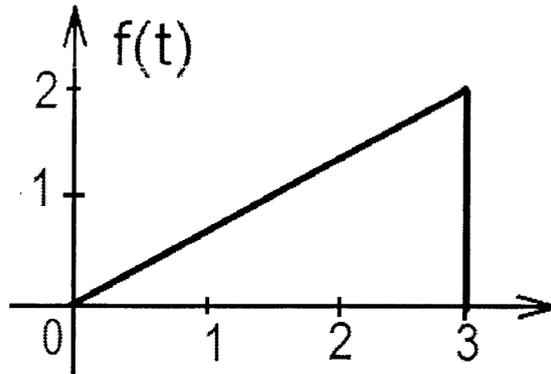

Fig. No.4
- b)** Find Laplace Transform of the waveform given in Fig No.4. [6]